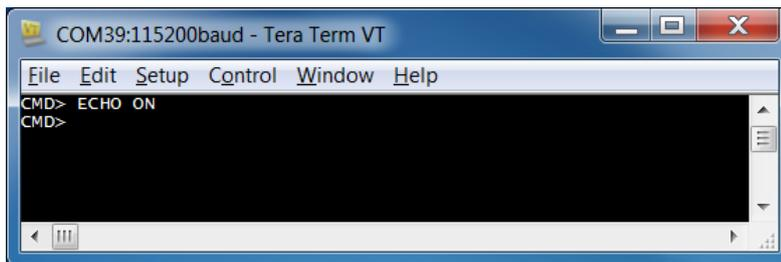

Fig 5: Command Prompt and ECHO ON response
- c. Enter “+” for turn on ECHO. Refer to Figure 5.